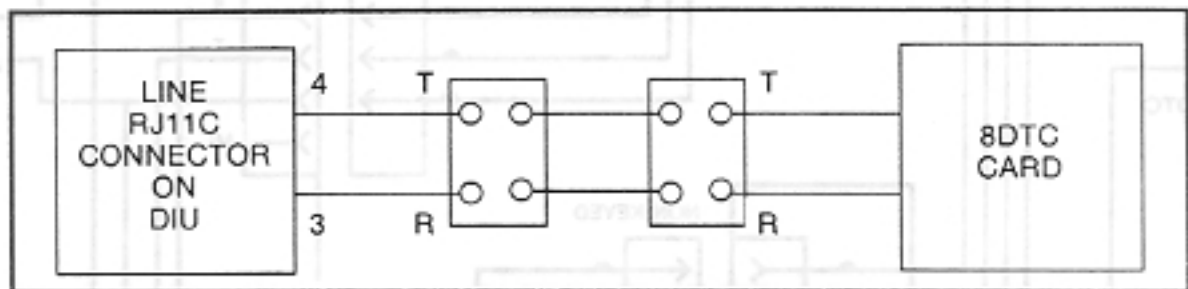

Figure 5.4 DIU Line-Side Wiring
1. The DIU is cabled/wired and cross-connected to an 8DTC card as outlined in paragraph 4.2.3. The DIU is connected to the 8DTC through pin numbers 3 (RING) and 4 (TIP) of the line RJ11C connector as shown in Figure 5.4.